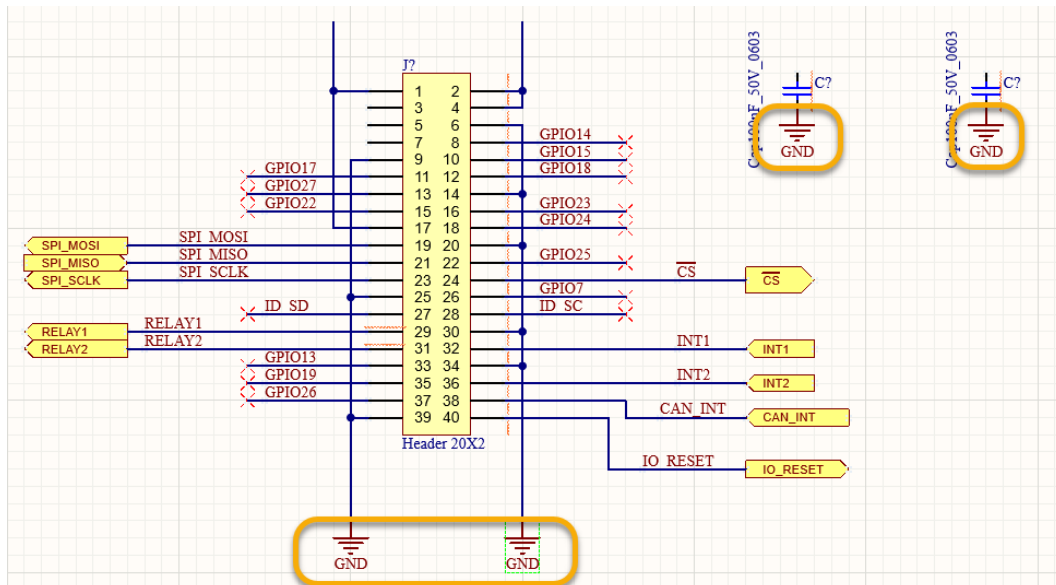

Figure 13. Power Ground ports below Header J4
20. Place **GND** ports on the connections on J4, and directly on the pins of the two capacitors, using Figure 13 as a reference (Power Ports can be rotated by pressing the **Spacebar** while moving them).